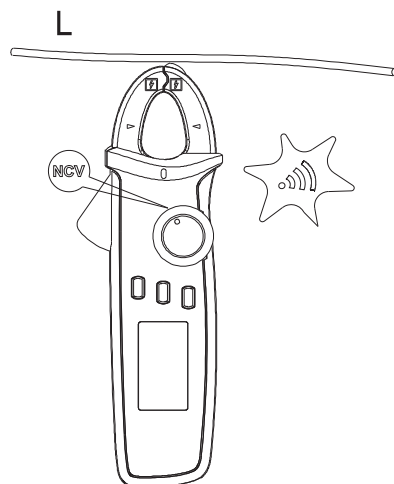

Figure 7
4. NCV non-contact field measurement (Figure 7)